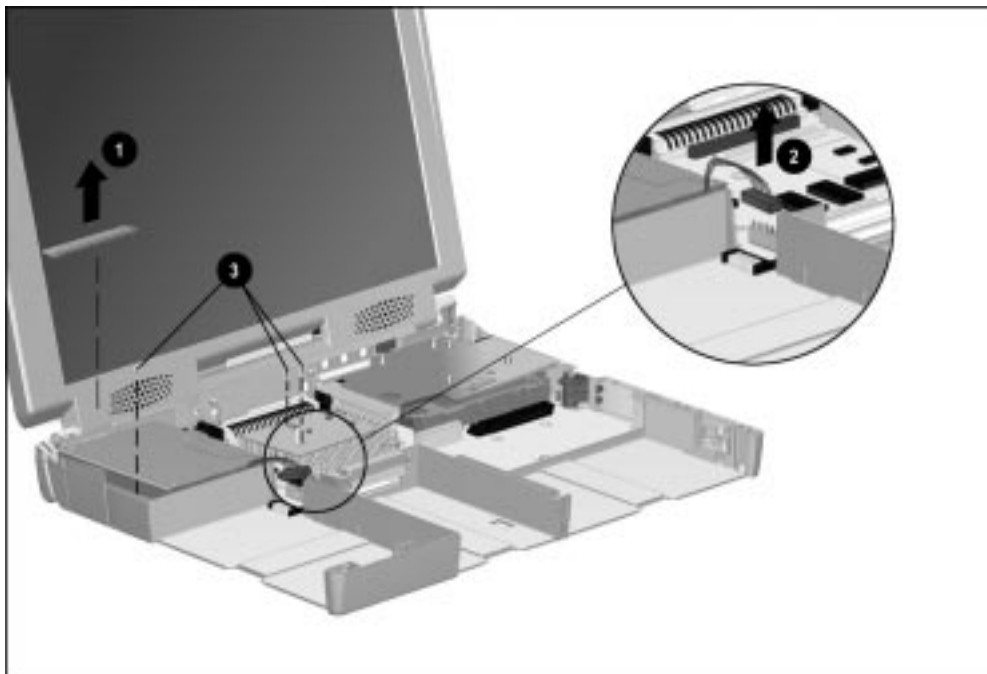

Figure 5-35. Removing the Left Rear Cover and Disconnecting the Power Supply Cable
4. Remove the left rear cover ❶ by sliding the cover toward the front of the computer and lifting it off the power supply (Figure 5-35).
5. Use the connector removal tool to disconnect the power supply cable ❷ from the system board.
6. Remove the two screws that secure the power supply to the system board and the screw that secures the ground clip to the processor module assembly ❸. Make sure the ferrite beads on the power supply cable do not obstruct the removal of the inboard screw.